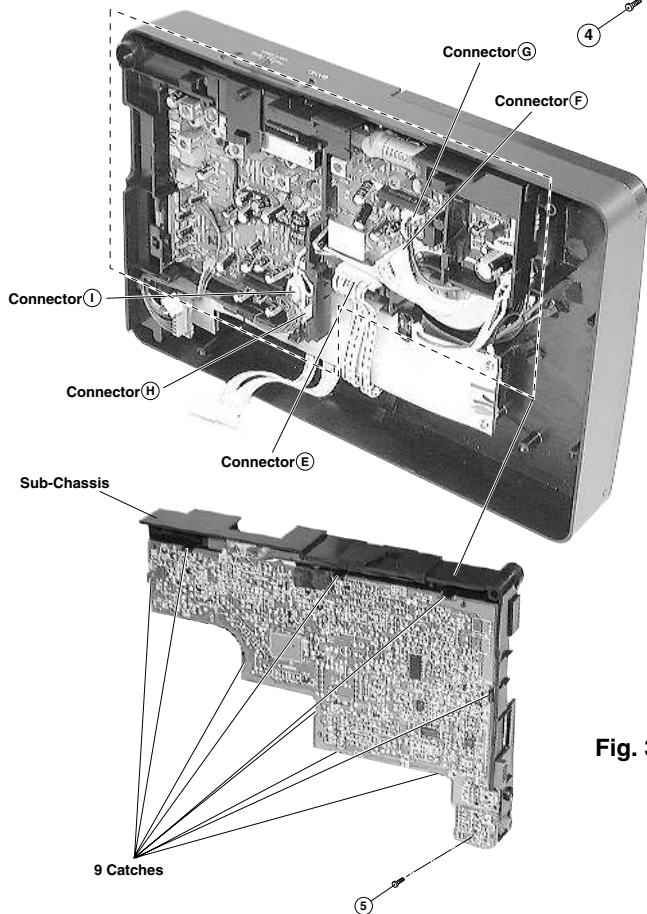

Fig. 3
2. Removal of TUNER P.W.B. Board (Fig. 3)
5. SW1, SW2 dummy antenna is shown in Fig. 3.